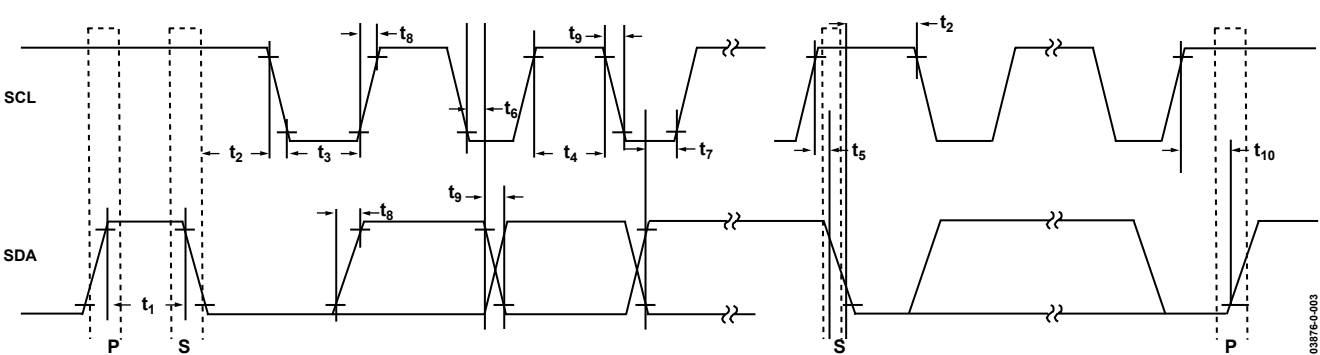
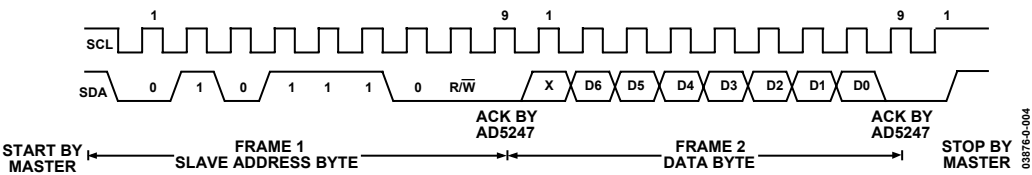
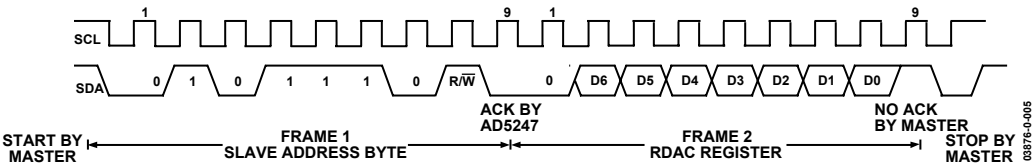

Figure 31. I2C Interface, Detailed Timing Diagram
Figure 32. Writing to the RDAC Register
Figure 33. Reading from the RDAC Register
3 See timing diagrams (Figure 31, Figure 32, Figure 33) for locations of measured values.
1. The master initiates data transfer by establishing a START condition, which is when a high-to-low transition on the SDA line occurs while SCL is high (see Figure 32). The following byte is the slave address byte, which consists of the 7-bit slave address followed by an R/W bit (this bit determines whether data will be read from or written to the slave device).
3. In read mode, after acknowledgment of the slave address byte, data is received over the serial bus in sequences of nine clock pulses (a slight difference from write mode, where eight data bits are followed by an acknowledge bit). Similarly, the transitions on the SDA line must occur during the low period of SCL and remain stable during the high period of SCL (see Figure 33).
4. When all data bits have been read or written, a STOP condition is established by the master. A STOP condition is defined as a low-to-high transition on the SDA line while SCL is high. In write mode, the master will pull the SDA line high during the tenth clock pulse to establish a STOP condition (see Figure 32). In read mode, the master will issue a No Acknowledge for the ninth clock pulse (i.e., the SDA line remains high). The master will then bring the SDA line low before the tenth clock pulse, which goes high to establish a STOP condition (see Figure 33).